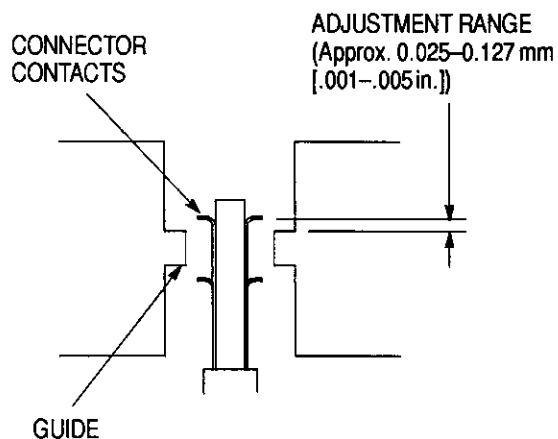

Figure 4
5. Observe the relationship between the connector contacts and the inserter assemblies' guides. Refer to Figure 4.
6. Turn the machine's height-adjustment wheel until the height is within the adjustment range, as shown in Figure 4. Turn the wheel **CLOCKWISE** to **LOWER** the mandrel (and connector) and **COUNTERCLOCKWISE** to **RAISE** the mandrel (and connector).